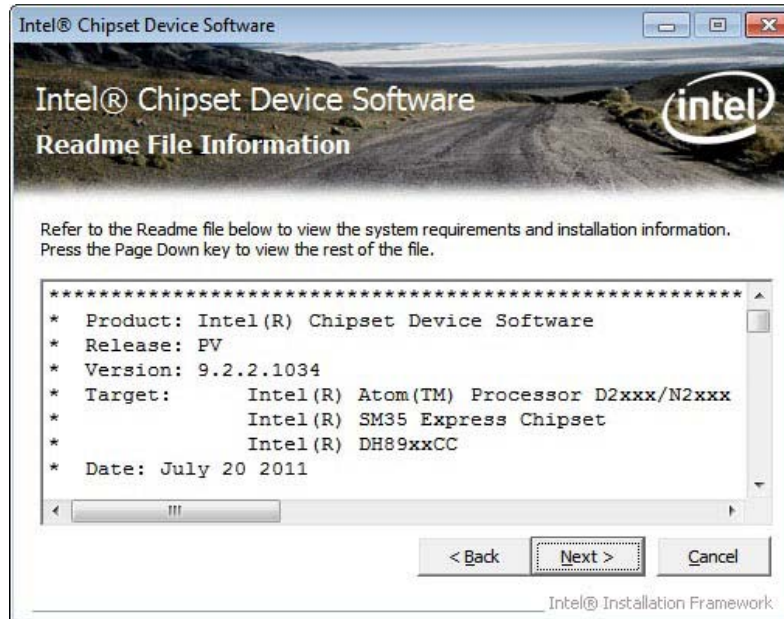

Figure 6-5: Chipset Driver Read Me File
Step 12: The Read Me file in **Figure 6-5** appears.